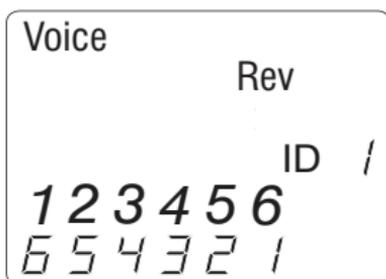

Figure 4. Voice Mode Test with Rev Cable
3. **Single Test:** To run a single test on the 6-position connected voice cable, press the VOICE MODE button. The following appears in the LCD display screen (see Figure 4):
4. **Continuous Test:** To run a continuous test, press and hold down the VOICE MODE button until "LOOP ON" appears in the display (see Figure 5 below). When looping is active, three small moving "bars" appear on the right side of the display screen. The display screen will update with the icons and values that appear during a single test (see Figure 4).